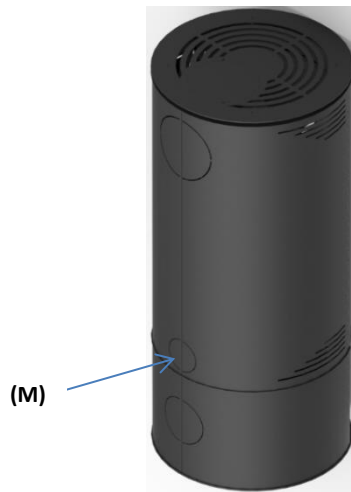

Figure 4 - Rear view of the equipment; (M) section to remove for external air inlet
If it is at the rear of the equipment at the bottom of the side covers, as shown in Figure 4, the microdots of the side covers must be broken (M).